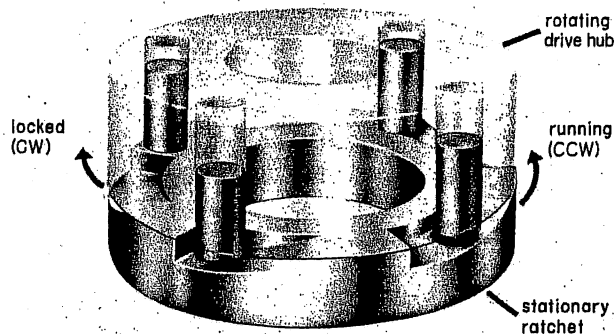

Figure 4 Ratchet Assembly
1. Ratchet Type - These motors are equipped with non-reverse ratchet that permits rotation in the CCW direction only. The ratchet consists of a stationary member with teeth or steps cast into it and a rotating member with pins operating in vertical holes. When the motor starts in the forward or CCW direction, the inclined faces of the ratchet teeth throw the pins upward where they are held by centrifugal force and friction. When the motor stops, the pins drop and prevent CW or reverse rotation by striking the vertical faces of the teeth. Refer to Figure 4.
Both types of couplings shown in Figures 4 and 5 are bolted to the drive hub at the factory for shipping purposes.